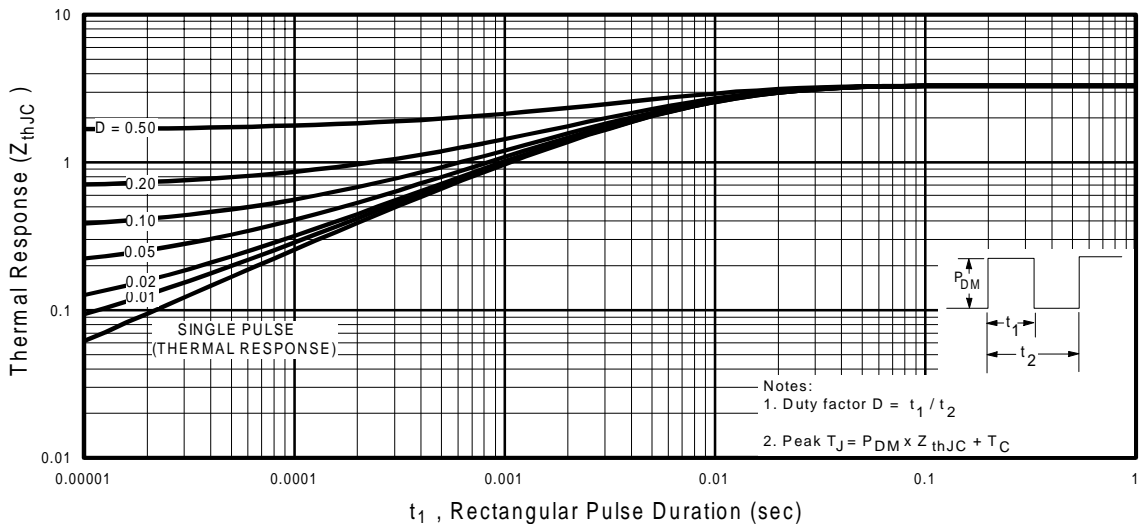

Fig 11. Maximum Effective Transient Thermal Impedance, Junction-to-Case
- ① Repetitive rating; pulse width limited by max. junction temperature. (See fig. 11)
- ② $V_{DD} = 25V$, starting $T_J = 25^\circ\text{C}$, $L = 1.0mH$